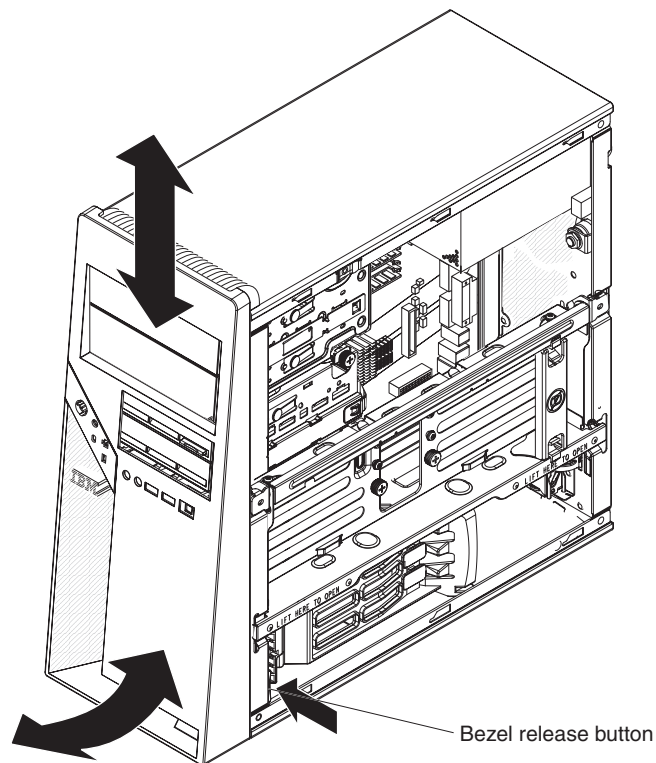

Figure 12. Removing the bezel
4. Press the bezel release button and pull the bottom of the bezel away from the chassis; then, lift the bezel up to disengage the top tabs (see Figure 12).